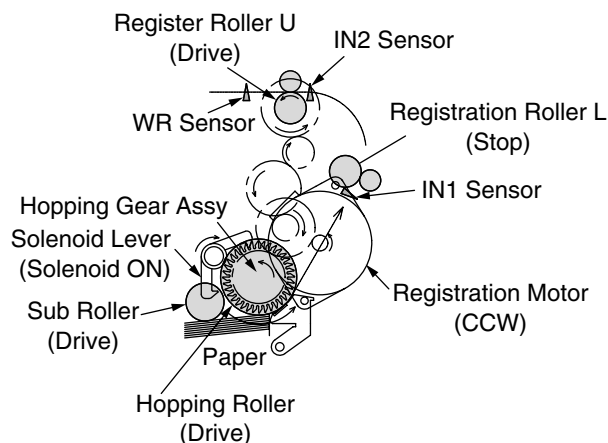

Figure 2-1
1. As illustrated in Figure 2-1, when the solenoid is ON, the register motor rotates (Counterclockwise turn), transporting the paper until the IN1 sensor comes ON. (When the solenoid is ON, the paper feed roller is driven.)